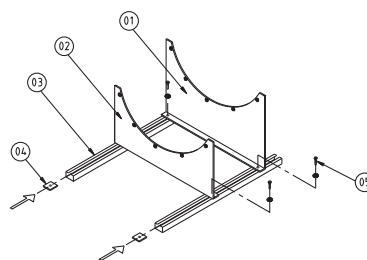

Fig. 4. Mount for type ACP Smoke
The fan is best installed using special mounts (available as optional extras, fig. 4), but it may also be suspended by the housing flanges or in special hangers.
Mounts for types ACP and ACG Smoke consist of two mounting plates (fig. 4 pos. 01 and 02). Beneath these, two C-profiles (pos. 03) must be fitted using bolts (pos. 05) and nuts (pos. 04).